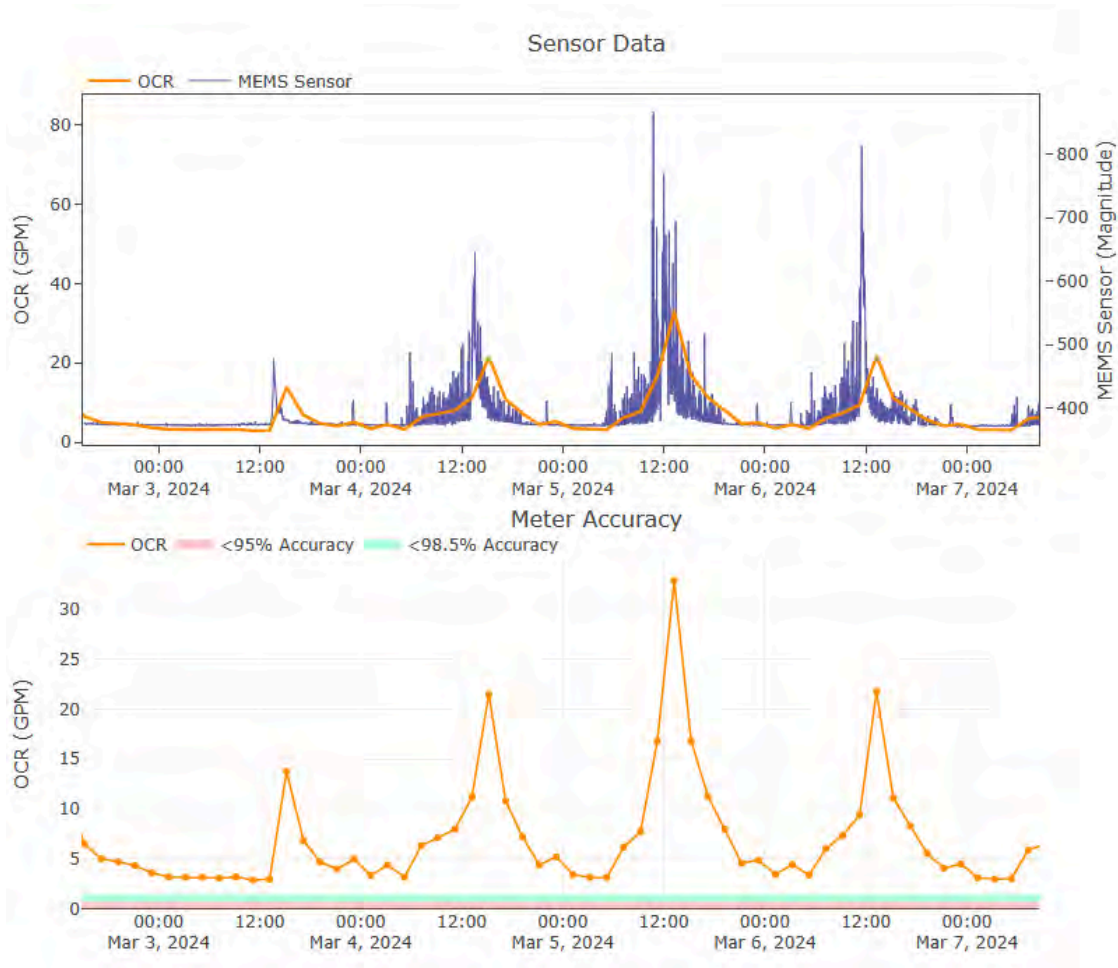

Figure 42 - Post repair 'No Problem Found' meter
- This compound meter (Figure 42), previously had a damaged low flow register error. Fullerton staff have completely replaced the Hershey meter with a Sensus meter, and Olea's MHA technology has identified this meter as 'No Problem Found'.
- This new meter is correctly sized for the flow received during the validation phase. The new meter is now recording up to 35 GPM of flow, compared to the previously recorded combined flow of 70 GPM (Figure 42).